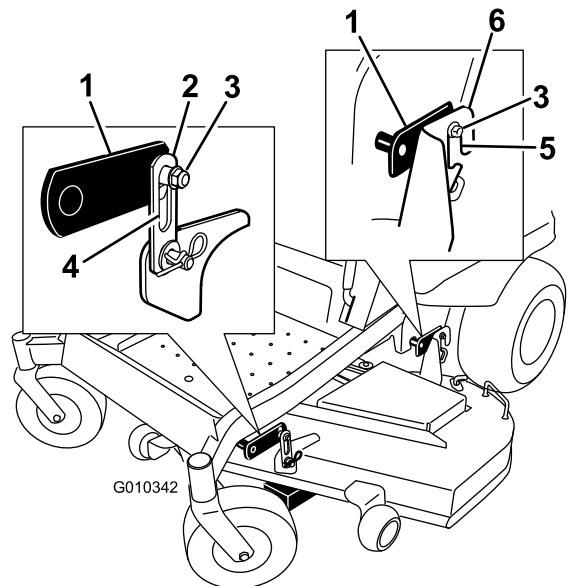

Figure 72
4. Loosen the leveling adjust locking nuts (item 3) on all four corners so that the deck is sitting securely on all four blocks. Make sure that the deck hangers are all the way down (at the top of the slot) and the deck lift foot lever is pushed back against the stop, then tighten the four leveling adjust locking nuts (Figure 72).